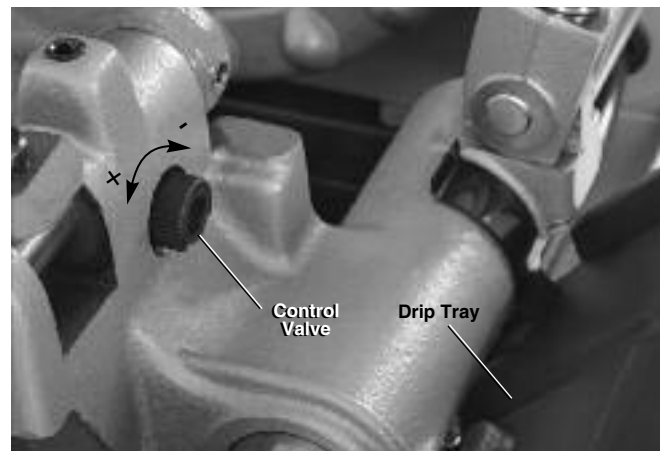

Figure 5 – Adjusting Oil Flow
11. Check the level of RIDGID Thread Cutting Oil. Remove the chip tray and oil pan liner; see that the filter screen assembly is fully submerged in oil. See *Oil System Maintenance*. If the machine is equipped with the drip tray, make sure it properly placed to direct oil dripping off the die head into the chip tray (see *Figure 5*).
- Place die head in the use position. Depress and hold the foot switch. Check for oil flow through the die head. Remove foot from the foot switch. The oil flow can be adjusted with the control valve on carriage (*Figure 5*). Clockwise rotation decreases flow and counterclockwise increases flow. Do not adjust while the machine is running.